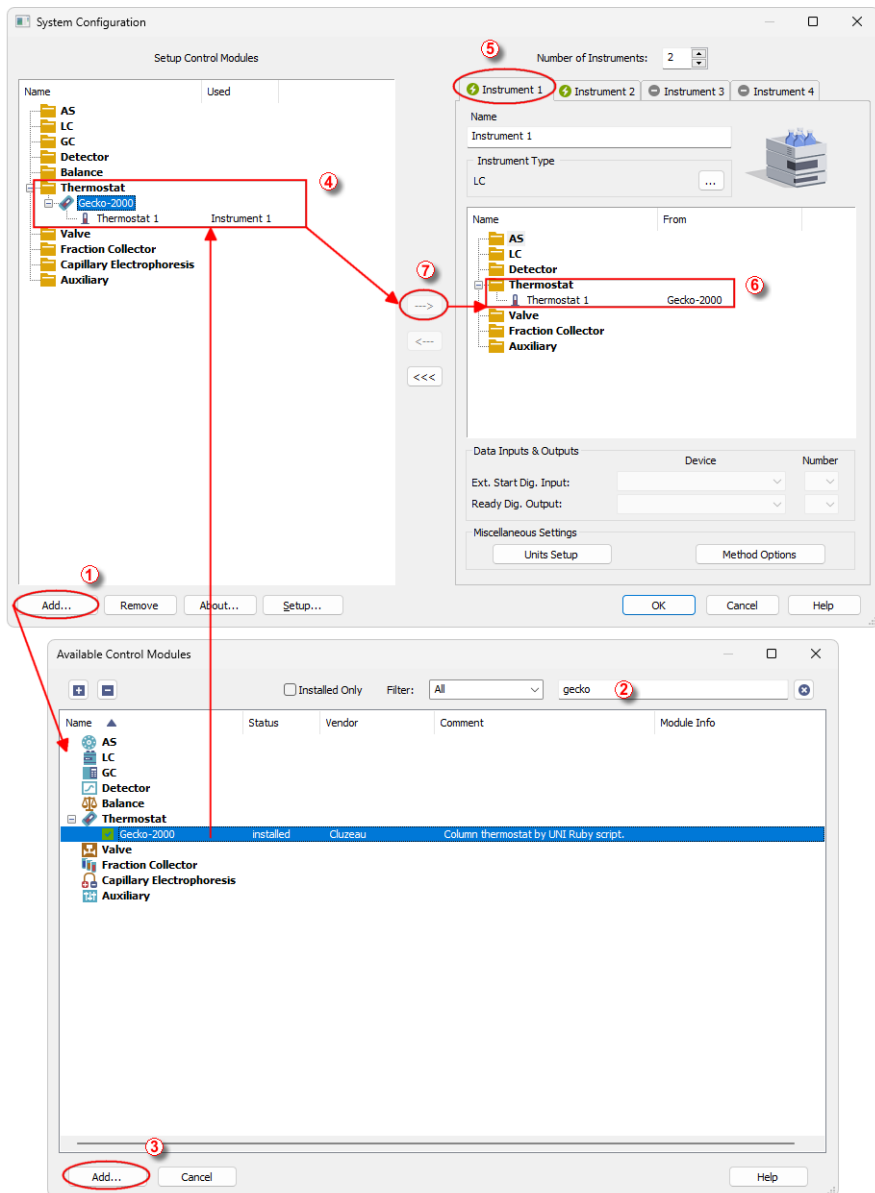

Fig. 3: How to Add Cluzeau Gecko 2000
- Press the **Add** button (① on **Fig. 3** on pg. 4.) to invoke the *Available Control Modules* dialog.
- You can specify the search filter (②) to simplify the finding of the driver.
- Select the correct item and press the **Add** (③ on **Fig. 3** on pg. 4.) button. Each device with already created UNI profile should have its own item named accordingly in the *Available Control Modules* dialog.